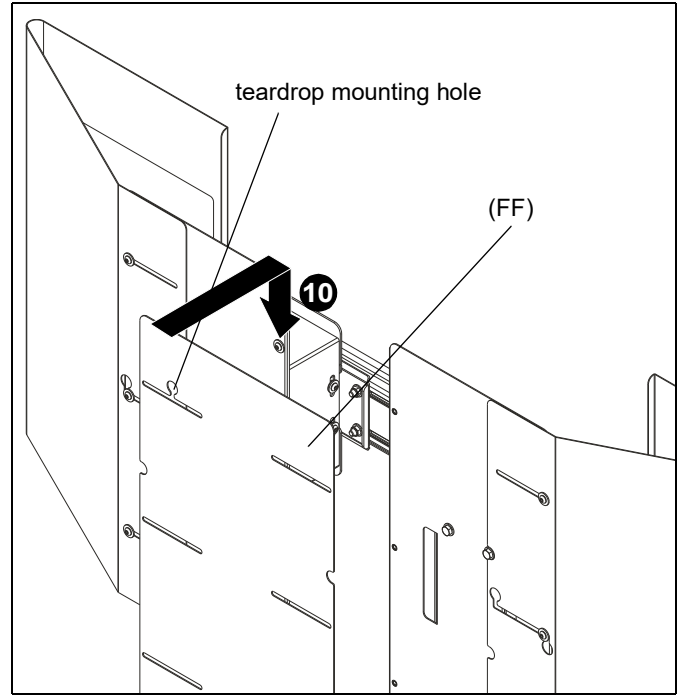

Figure 15
10. Hang x-large adapter (FF) onto screw loosely installed in Step 9 teardrop mounting hole in upper left slot. (See Figure 15)